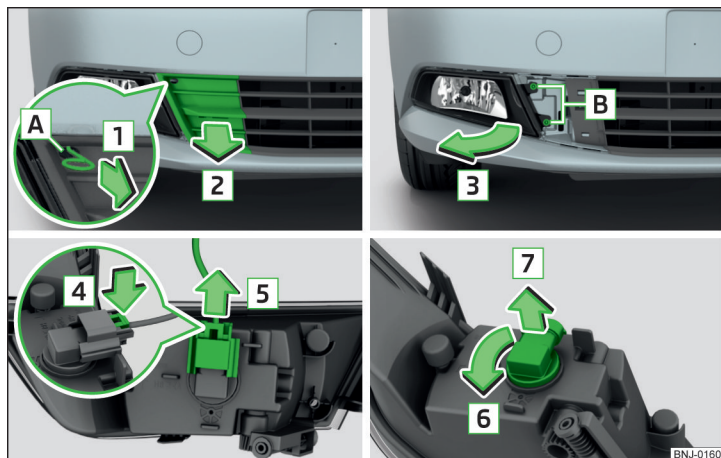

Fig. 213 Removing the fog lamp / changing bulb for fog light switch
- » Fig. 213.
- Push in the latch on the connector in the direction of arrow **4** » Fig. 213.
- » Fig. 213 and tightening.